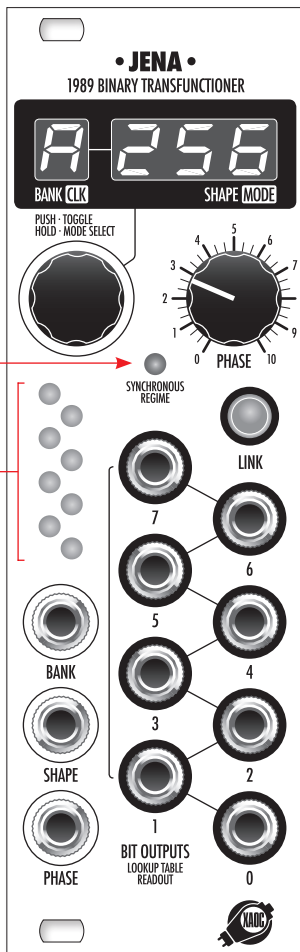

fig. 2
The front panel of Jena (fig. 2) features all the controls as well as a 1+3 digit LED display. During normal operation, the display shows the currently selected bank of shapes or functions ❶ as well as the current shape number within the bank ❷. Additional information is displayed during operating mode selection. The endless rotary encoder below the display ❸ allows for manual selection of the current **BANK** or **SHAPE**. A short press on the encoder switches between the bank and shape layer. A small dot on the display indicates which layer is currently selected for editing. Both the bank number and shape/function number may be additionally controlled via the corresponding **BANK** ❹ and **SHAPE** ❺ CV inputs that accept -5V to +10V. The voltage values add to the panel selection. The second knob, **PHASE** ❻, sets the initial phase of the waveform which can also be modulated by external CV via the **PHASE** jack ❼. The range of modulation is -5V to 5V which corresponds to the phase change of four full cycles. The blue **LINK** button ❽ controls whether the processed input data in Jena is passed to its Leibniz output (the ribbon cable connected at the back). When unlinked, the incoming data is passed through unaffected. Regardless of the status of the **LINK** button, the processed data is always available from eight **BIT OUTPUTS** jacks ❾ in the form of eight binary gate (5V) signals corresponding to individual bits (as with the other Leibniz modules). The cluster of yellow LEDs ❿ indicates the **BIT OUTPUTS'** activity. The central red LED ⓫ indicates whether Jena is operating in the asynchronous (waveshaper) or synchronous (oscillator) regime.